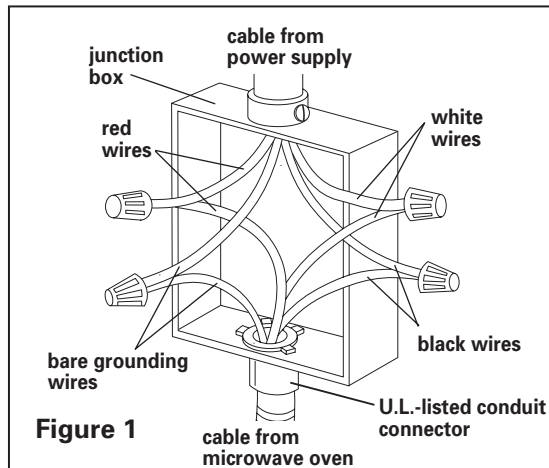

Figure 1
8. Connect white oven cable wire to neutral (white) wire in junction box. See Figure 1.
9. Connect the bare grounding oven cable wire to the ground wire in the junction box. **Do Not connect bare grounding wire to neutral (white) wire in junction box.** See Figure 1.